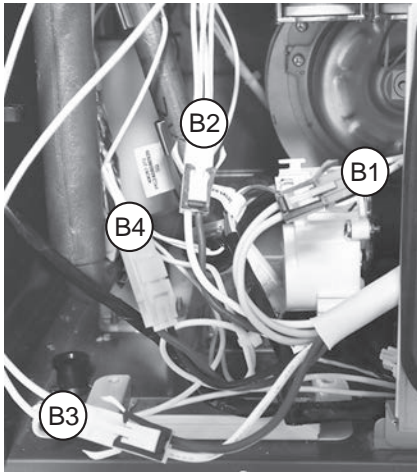

Figure 49 - Wiring harness "B1-B4" location
11 Locate the 4 wiring harnesses to the left of the UIM and disconnect them. See Figure 49.
- 12 Wiring harness connections B1 - B3 use a security clip. Reference Figure 49 for location.
- 14 Disconnect wiring harness B4. Reference Figure 49 for location.